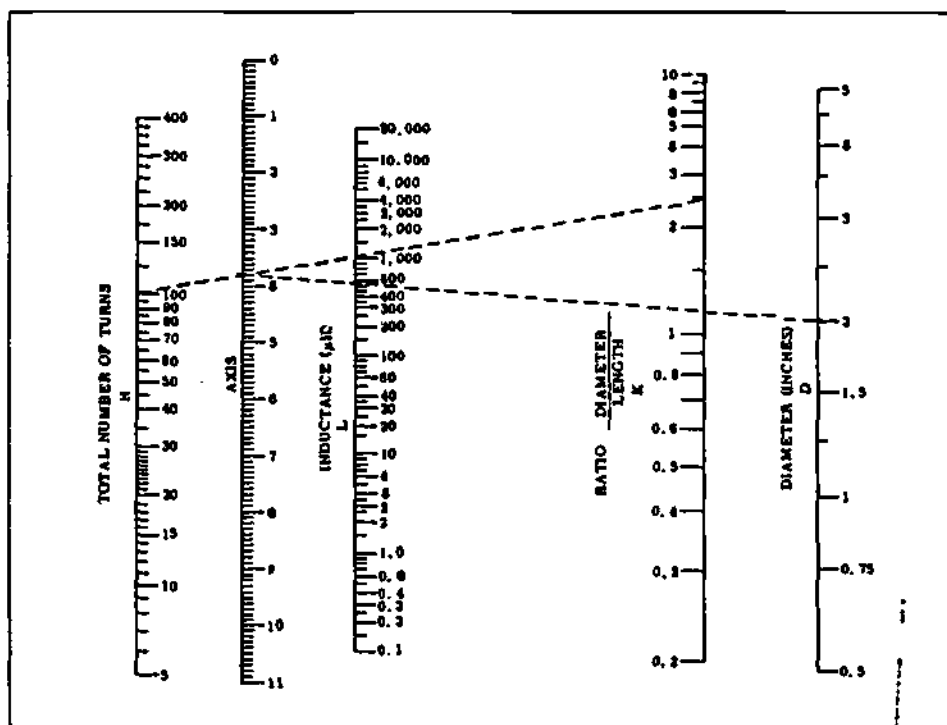

Figure 12. Single Layer Coil Calculator
2. COIL NOMOGRAPH - A single layer coil calculator nomograph is shown in Figure 12. Examples of using the nomograph are as follows: